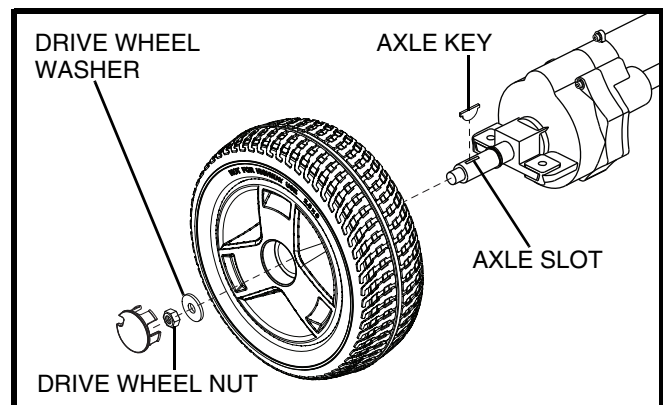

Figure 28. Wheel Replacement
3. Remove the drive wheel nut and washer from the axle. See figure 28.